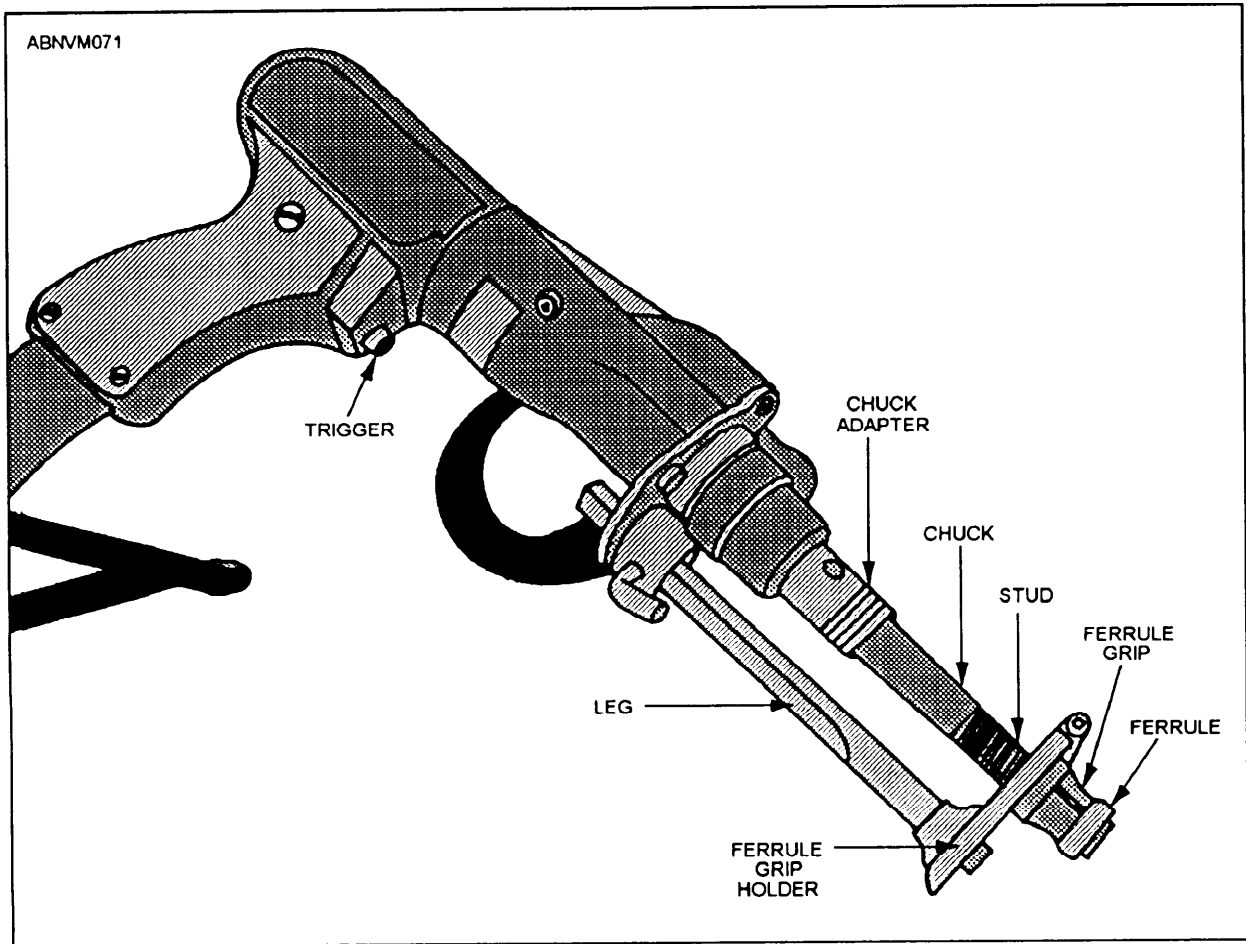
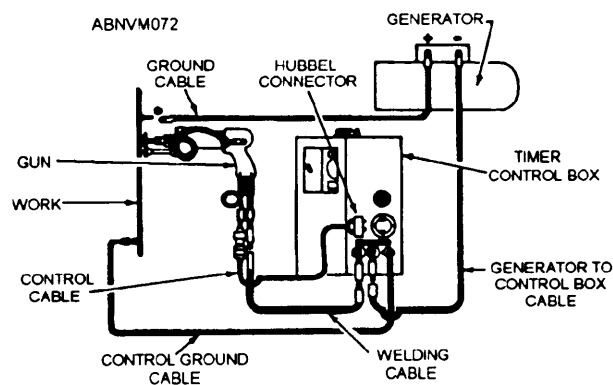

Figure 10-71.—Stud welding gun.
Figure 10-72.—Connection diagram for stud welding.
Stud welding is a relatively simple electric welding-arc process that is used to end-weld studs to plate or other pieces. Stud welding was first developed to fasten wooden decking to steel plates, but it has become widely used for a variety of other applications. The equipment required for stud welding includes (1) a stud welding gun, (2) a timing device to control the time of current flow, (3) a source of dc power for welding, and (4) a supply of specially designed metal studs and ferrules. A typical portable stud welding gun is shown in figure 10-71. Figure 10-72 shows the connections between the various units in the system.